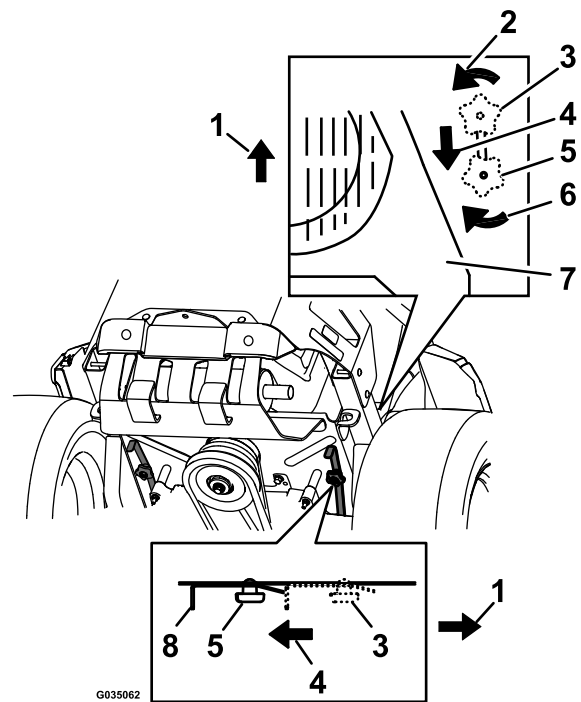

Figure 40
4. To push the machine, move both bypass knobs rearward and lock them into place (Figure 40).
6. To run the machine, move the bypass knobs to the FORWARD position and lock them into place (Figure 40).